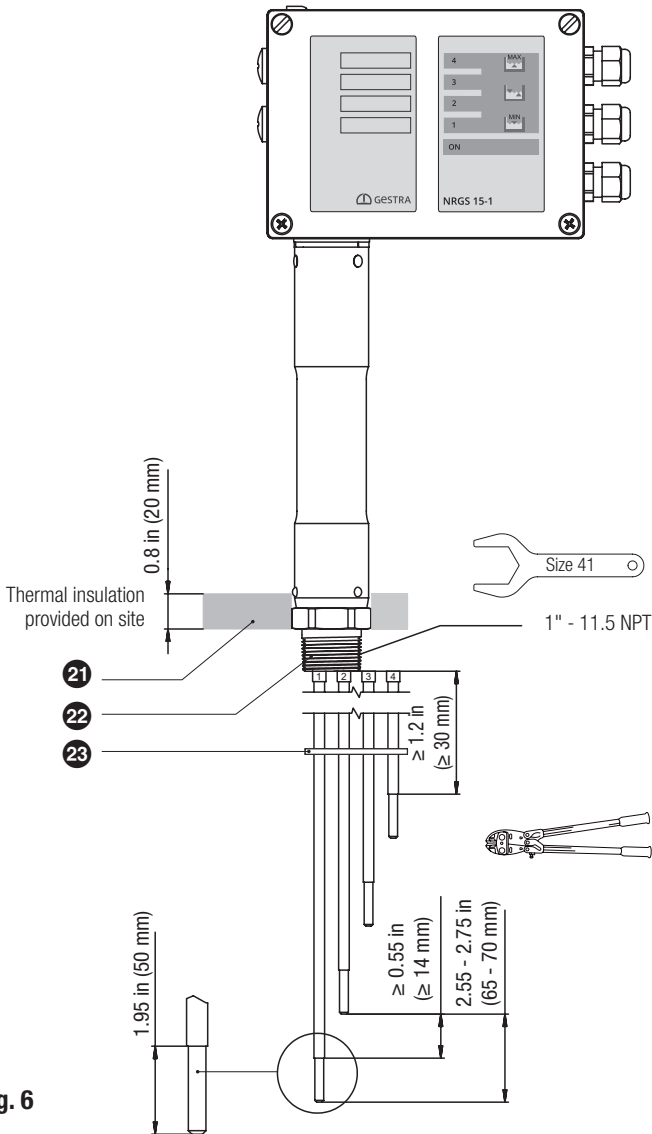

Fig. 6
4. Strip off 1.95 in (50 mm) of the PTFE insulation from the lower end of the electrode rod. Make sure that the remaining insulation measures at least 1.2 in (30 mm), measured from the lower edge of the screw thread. See **Fig. 6**.